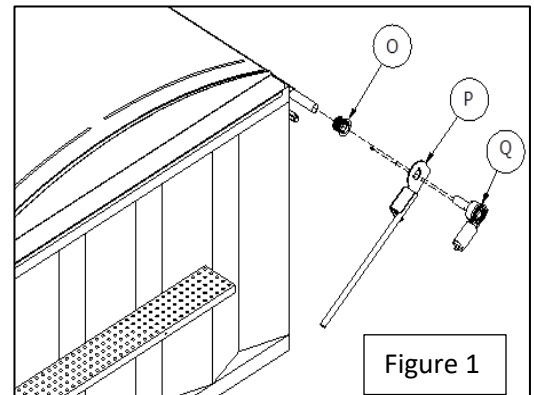

Figure 1
8. Mount the motor (Q) to the motor bracket (P) with three 5/16" x 3/4" hex bolts and lock washers. See Figure 1.
9. Install the motor (Q) into the end of the roll tube. Slide the Motor Drive into the Rolltube Drive Coupler so the two are engaged. Secure together with the supplied quick pin. **THE LOCKING WIRE FOR THE QUICK PIN HAS TO GO AROUND THE COUPLER AS SHOWN HERE SO IT WILL NOT CATCH ON ANYTHING CAUSING IT TO COME APART.**